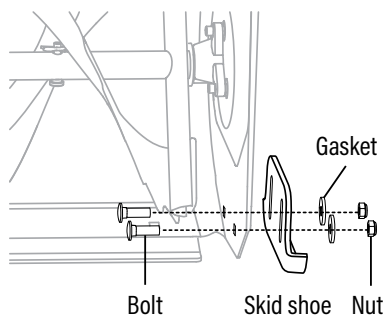

Fig. 16A
1. Loosen and remove the nuts, gaskets, and the skid shoe from the bolts. (Fig. 16A)